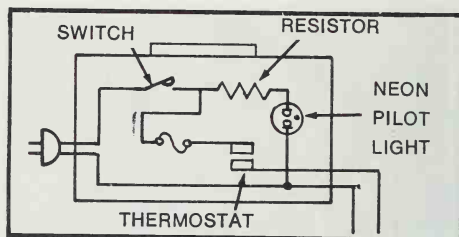

Figure 8. Electric blanket control box.
5. Still no heat? Then, my friend, you have to open up the control box (Figure 8). You will have to feel your way, because each box differs to some extent from others and my suggestions have to be general.